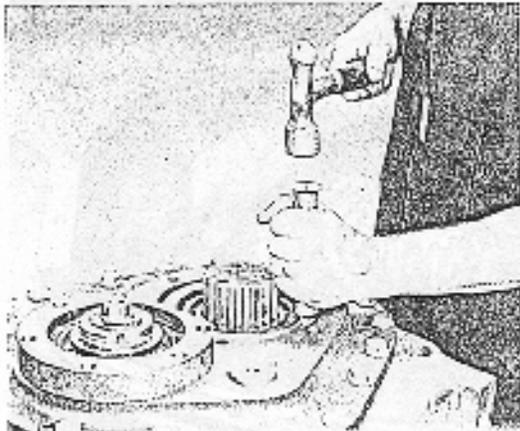

Figure 40. Installing Bearing Cup in Cover.
7. Install oiled bearing cup in output bore in cover and tap it snug against roller assembly. See fig.40.